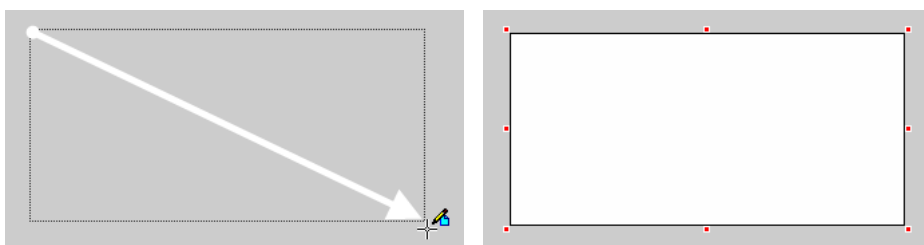

FIG. 59 Popup Draw tool - Drawing a Popup Page
2. Left-click inside the desired page (in the active Design View window), and while holding the left mouse button down, drag to draw the popup page to the desired size and shape (FIG. 59):